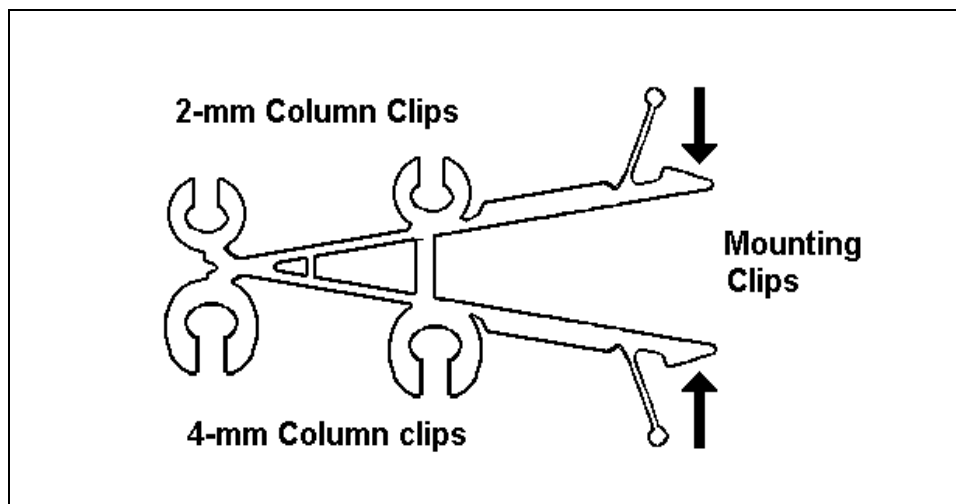

Figure B-7. Separator Column Mounting Clip
3. Install the separator column mounting clip by inserting it into one of the square holes at the front edge of the component panel (see Figure B-7. If you are using the 4-mm suppressor columns, orient the clip so the larger clips are toward the front. If you are using the 2-mm columns, orient the clip so the smaller clips are nearer the front.